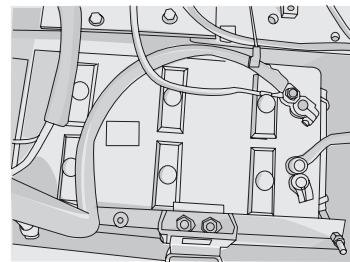

Figure 4-21
16. Battery electrolyte (Figure 4-21)